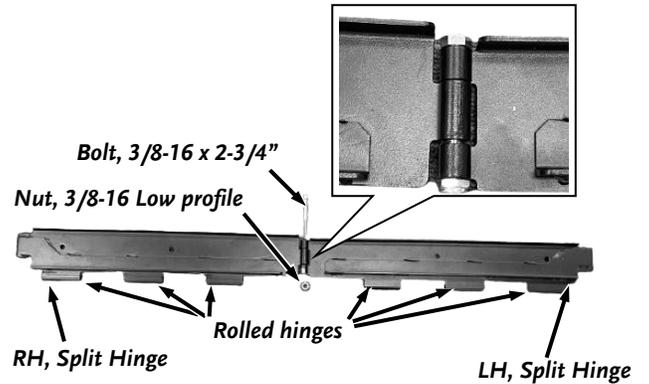

Figure 43
1. First assemble the Front Split Hinge by joining the RH and LH Split Hinge parts, oriented as shown in **Figure 43**. Fasten them together with one 3/8-16 X 2 3/4 Bolt and one 3/8-16 Low profile Nut using two 9/16" Wrenches. Do not overtighten, as these two components will need to rotate about one another.